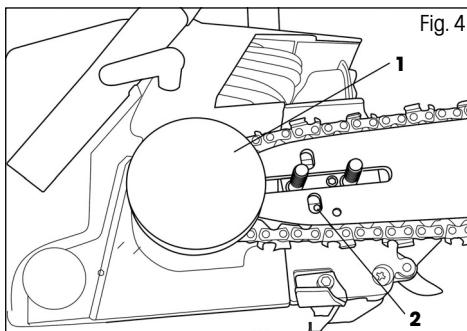
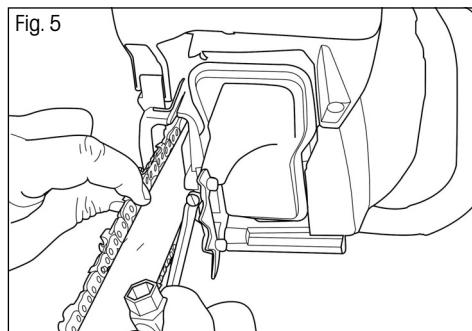

Fig. 4
Fig. 5
**⚠ ATTENTION!** The chain tensioning pin must fit into the hole in the guide bar (Fig. 4, point 2). The position of this pin can be adjusted using the chain tensioning screw (Fig. 5)
- ❖ Tension the chain using the tensioning screw (Fig. 5) and then tighten the sprocket cover nuts using the included tubular wrench
- ❖ Use a screwdriver to turn the chain tensioning screw (Fig. 5). Turn the tensioning screw until the required tension is achieved (you should lift the chain in the middle of the guide bar in the horizontal position to a height of 3 to 4 mm).